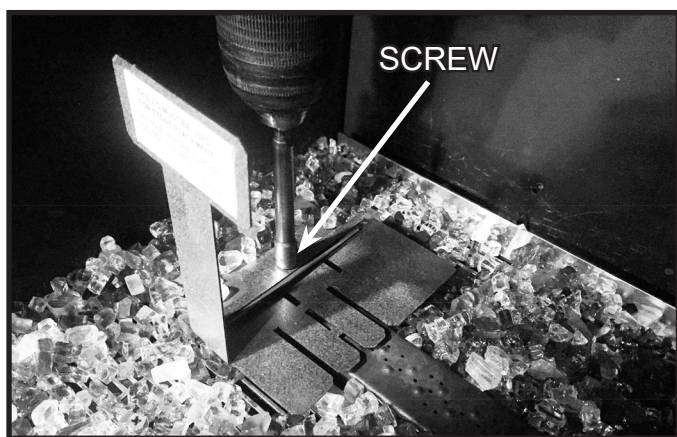

Figure 3. Remove Media Placement Jig
3. Remove the screw, noted in Figure 3, from the media placement jig and carefully lift the jig out of the appliance. **DO NOT** allow any pieces of media to fall into the area in front of the pilot.